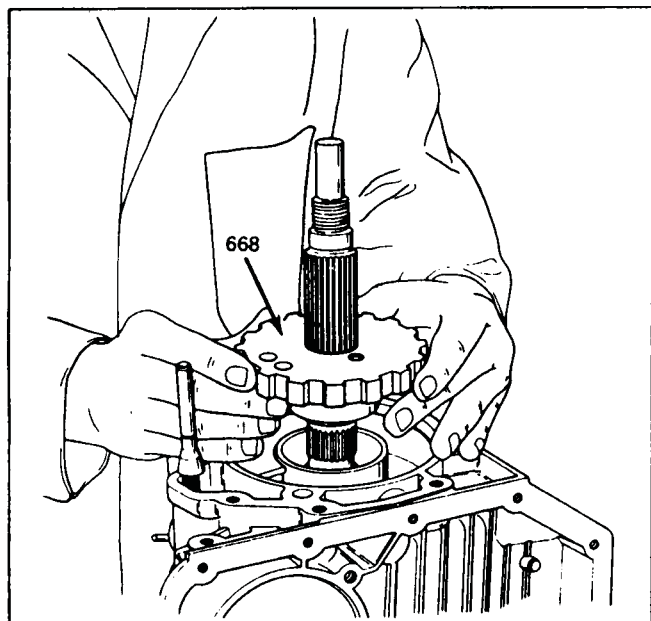

Figure 115
1. Rotate transmission so that the output shaft is facing up (See Figure 115).
2. Install the parking gear, by splining it onto the output shaft, as shown in Figure 115.